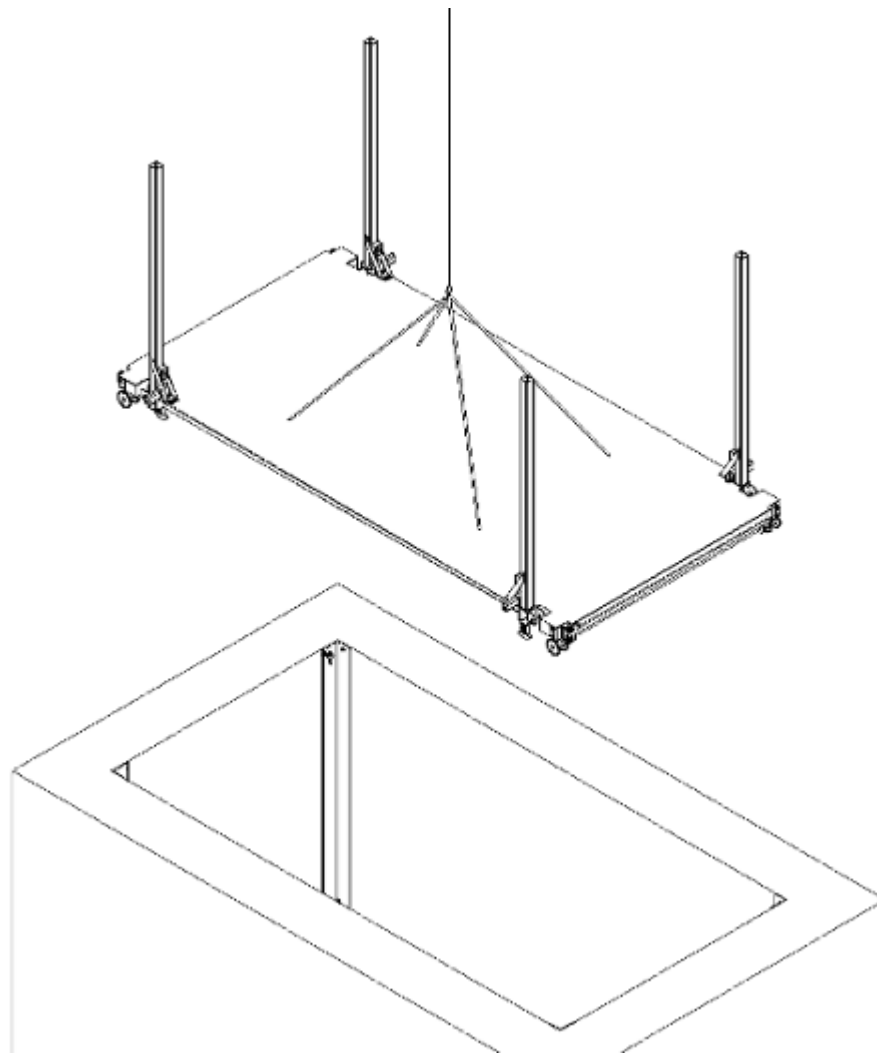

Figure 15 Carriage (Lower Deck) Installation Detail
C. PLACING THE LOWER DECK INTO POSITION (Reference Figure 15)